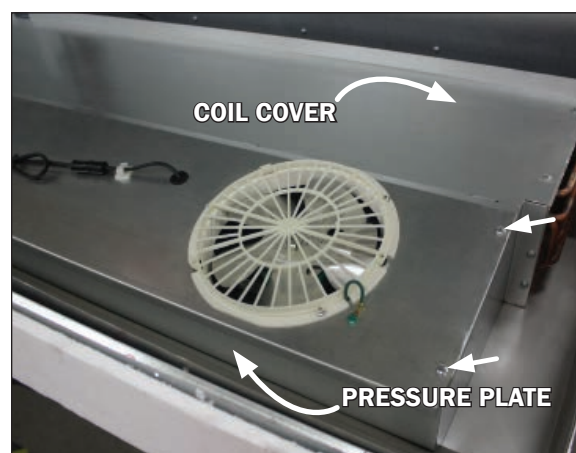
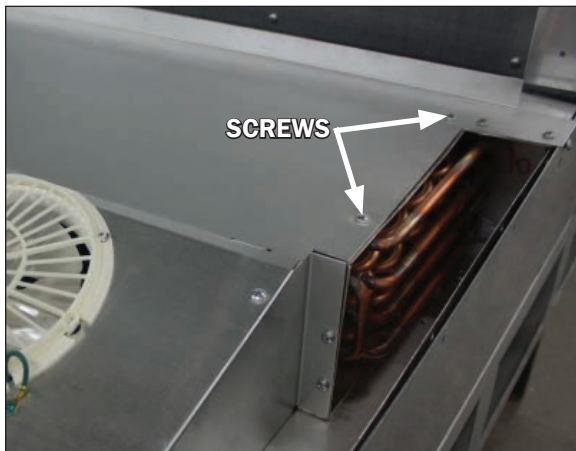

Fig. 14 Pressure plate, screw locations and coil cover (topside)
Fig. 17 Coil cover removal
2. To access the underside of the fans first remove the screws on the top ends and front sill of the pressure plate cover (Fig. 14). Lift the pressure plate by use of the
2. Remove the top two screws at both ends of the coil cover (Fig. 17), as well as the screws from the top ends and front sill of the pressure plate cover (Fig. 14). **Be sure to save the removed screws for reassembly.**